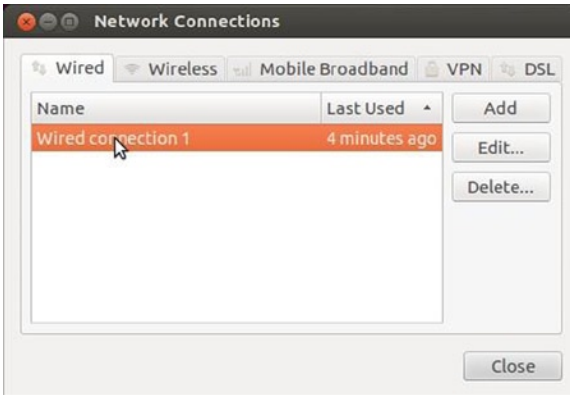

Figure 5-12. Selecting the wired connection
- From the Wired tab, select the wired connection and click the Edit button, as shown in Figure 5-12.